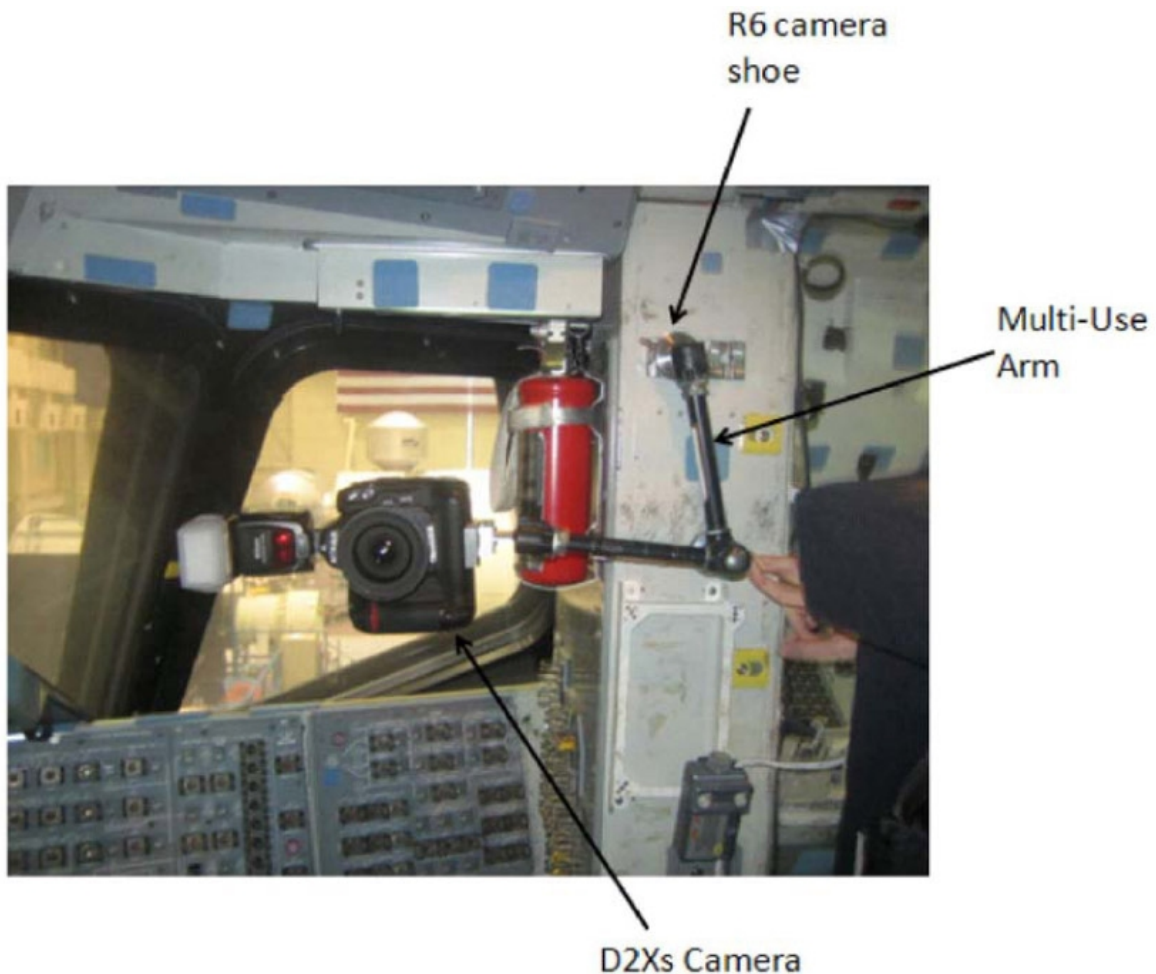

Figure 6. D2Xs Camera Positioned on R6 Camera Shoe
- 4.5 Position D2Xs Camera on Multi-Use Arm in a vertical orientation (SB-800 Flash towards forward) and install Multi-Use Arm to R6 camera shoe (forward towards window as seen in Figure 6).
Mount D2Xs Camera on Multi-Use Arm such that D2Xs Camera is orthogonal to CDR seat. Refer to Figure 6.